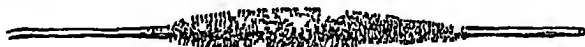

FIG 228
**Magnetic field due to a current**—Dip the wire through which a current is passing, into iron filings The filings cling to it When the circuit is broken the filings drop off (fig 228)